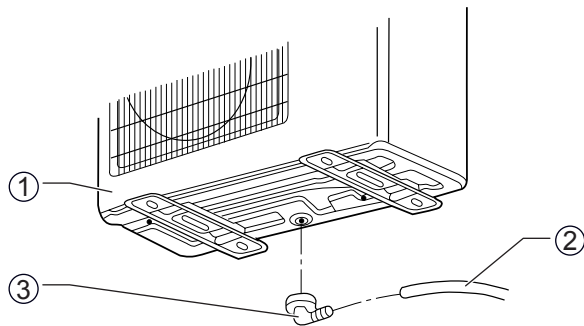

Fig. 10.1 Assembly of the drainage elbow for condensed water.
- Insert the elbow supplied in the hole provided at the bottom of the outdoor unit and turn it 90° to fix it (see Figure 10.1).